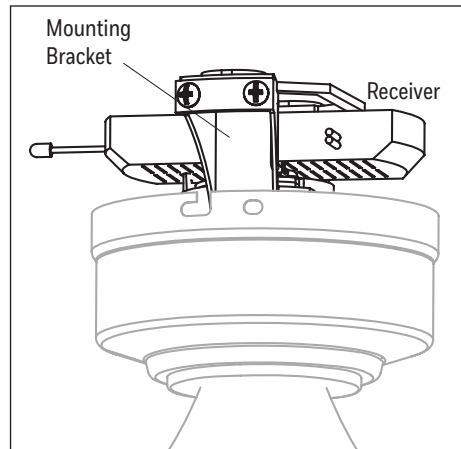

Figure 3.5
5. Insert the receiver, antenna first, into the mounting bracket with the flat side facing the ceiling. **Note:** The receiver will rest directly on top of the downrod. (Figure 3.5).